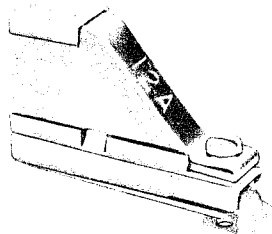
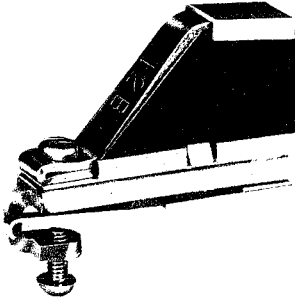
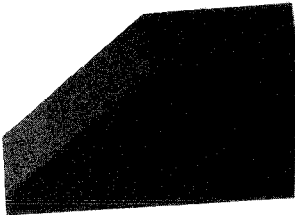

Fig. 14 — 12A Guard
Fig. 15 — 12B Guard
Fig. 16 — NS20353 L1
4.01 Common protective devices used on special service circuits are shown in Fig. 1 through Fig. 15.
4.09 The 12A guard, Fig. 14 is a metal framework covered top and bottom with insulating material, and provided with a latch spring, which must be deflected to remove guard. It is designed for use on 444 type jacks and is now Manufactured Discontinued. (Superseded by NS20353 L1 Fig. 16)
4.10 The 12B guard, Fig. 15 is the same as the 12A guard except it has a locking screw for maximum security. It is also Manufactured Discontinued. (Superseded by NS20353 L1 Fig. 16).
4.11 The NS20353 L1 guard consists of a red plastic insulator detail, Fig. 16, provided with a snap lock fit for security. This guard is designed for use on 444 type jacks, and supercedes the 12A and 12B guards.